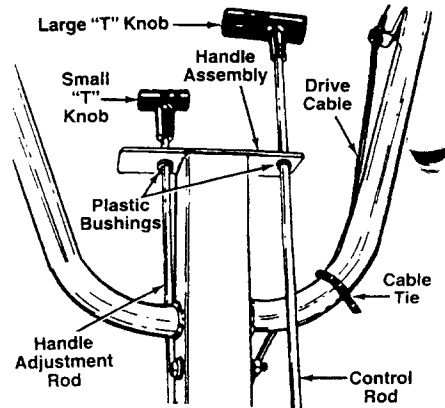

FIGURE 8
- Secure the drive cable to the left handle using cable tie. Refer to figure 8. Cut off excess end of cable tie.
- Insert the threaded end of control rod **up** through the plastic bushing on the left side of handle assembly. See figure 8. Thread the large "T" knob on the end of control rod.